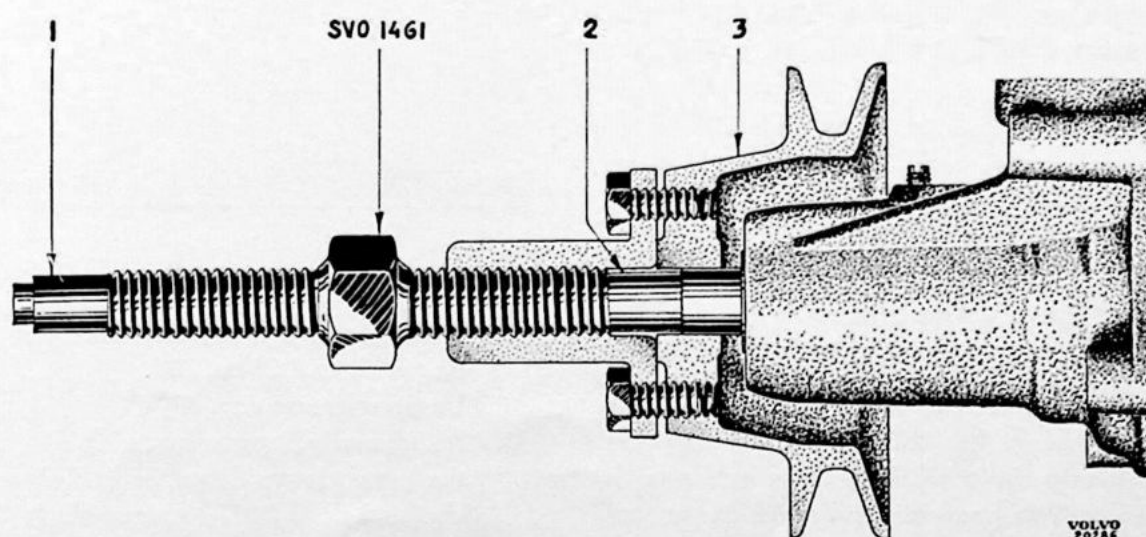

Fig. 101. The later version of the tool has number SVO 1461 A.
2. Remove washer (10) holding spring (9), and pull out spring and impeller (7). Detach spring from impeller.
3. Pull fan belt pulley (3) off pump shaft with puller SVO 1461 A (1461), Fig. 101. Use correct end of screw.
4. Remove setscrew (5) retaining rear end bearing.
5. Press pump shaft out of pump housing (6) by means of tool SVO 1309 and ring SVO 4132. Place tool on impeller end. Both ball bearings generally come out with the shaft; if not, drive out bearings with tool SVO 1233 and ring SVO 4132.
7. Unscrew grease nipple (4).